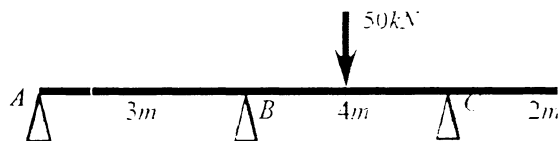

Fig. 1
- 1 Derive the three-moment theorem equations for general loading. (15)
- 2 a) Analyse the continuous beam shown in Fig. 1, using three-moment theorem (7)
- b) Find the bending moments at B and C of the continuous beam shown in Fig. 1, using slope deflection method (Assume EI as constant throughout the beam). (8)